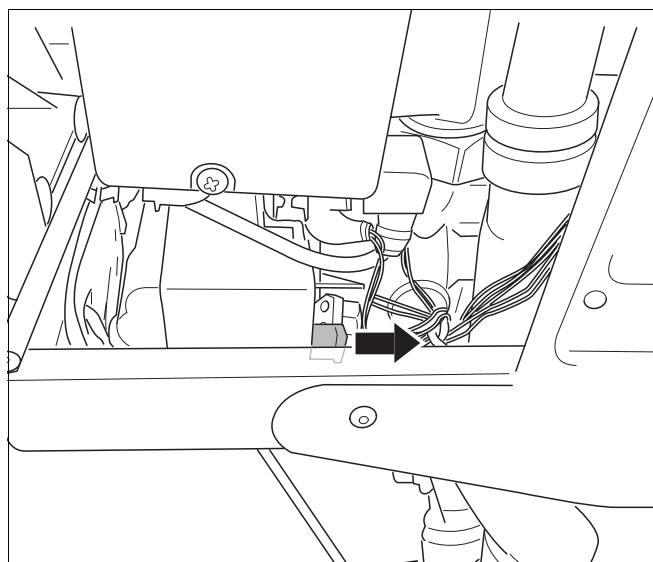

fig. 96 Disconnect plug
- Disconnect the plug (fig. 96, item 1) of the servomotor.